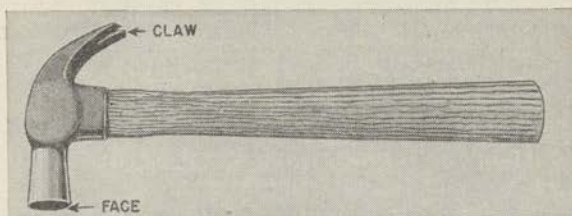

FIGURE 20.—Carpenter's hammer.
a. Carpenter's hammer (fig. 20).—Used for driving and withdrawing nails and has a forged steel head and hickory handle. Ordinarily